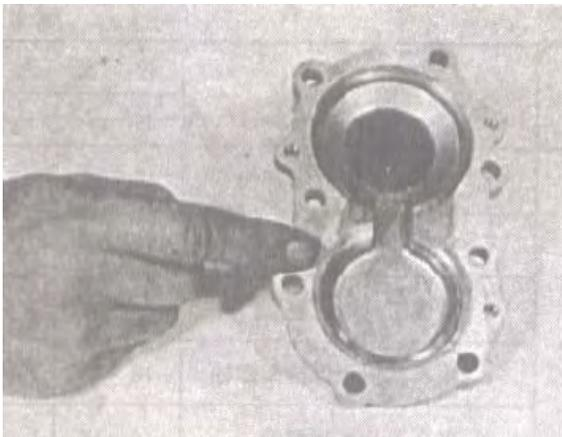

Fig 10-95
- (1) Apply grease(GREASE 201) to oil seal lip.
- (2) Clean surface of retainer to mate with transmission case and uniformly apply sealant( SILICON KETONE HZ1213) (FIG.10-95)
- (3) tighten retainer bolts to specification (TABLE 10-8)